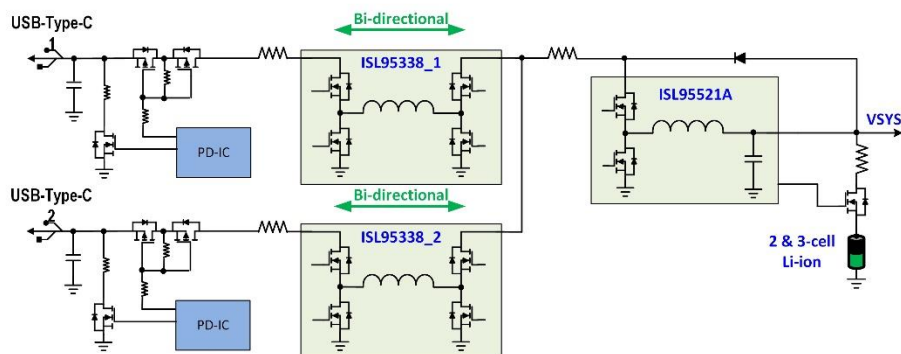
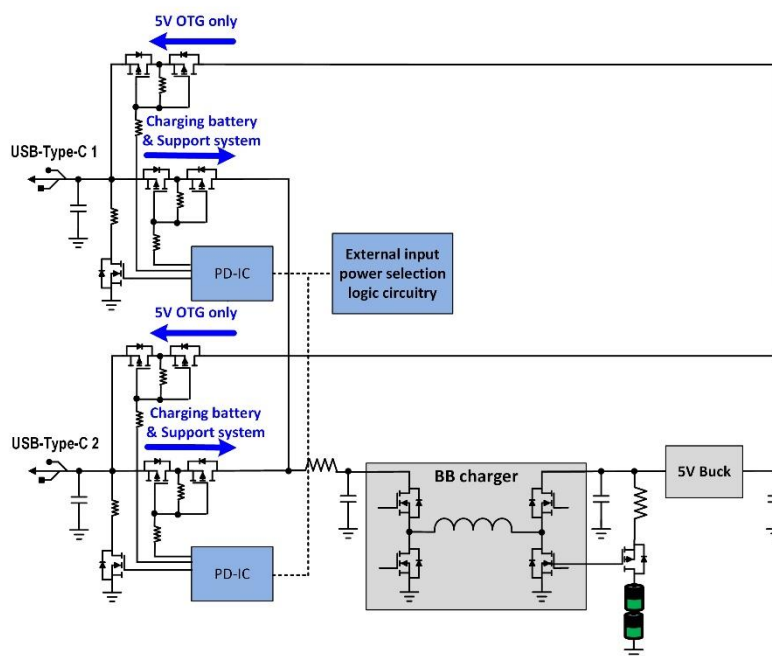
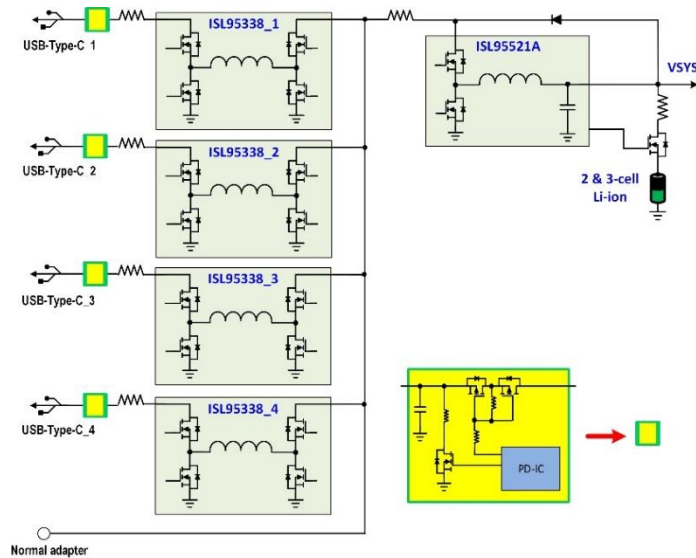

Figure 1. Renesas battery charger architecture—dual USB Type-C ports with 2x BB regulator + buck charger
Figure 2. Current battery charger architecture—single BB charger + complicated external logic
Figure 3. Renesas battery charger architecture for four USB Type-C ports—4x BB regulator + buck charger
Figure 1 shows a new USB Type-C architecture that consists of the ISL95338 bidirectional buck-boost (BB) voltage regulator and ISL95521A combo battery charger or ISL9238 BB battery charger. It allows a system to charge its battery through USB Type-C ports, and it supports the fast charge function when two PD chargers are plugged into USB-C_1 and USB-C_2. This new architecture also supports full USB 3.1 On-The-Go (OTG) for both ports without additional complex port-control logic circuits or ICs.
Comparing Figure 1 and Figure 2, it's easy to see that the current battery charger architecture requires more devices and complicated external circuitry to implement the same functions and performance level as Renesas' battery charger architecture. Obviously, with the current battery charger system, every individual charger path requires a USB-PD controller to control two ASGATE and perform the charge function, which increases the design's system cost. To implement 5V buck OTG, the OTG gate also needs a PD controller. Note that the current buck converter can only output a single fixed voltage. Figure 2 shows that if the 5V buck is adapted, designers can only output a fixed 5V, which doesn't match the adjustable 5V up to 20V OTG output voltage required by many USB Type-C applications.
The proposed Renesas architecture overcomes all of these disadvantages. Figure 1 shows that two ISL95338 are in parallel to interface two USB Type-C ports to the ISL95521A battery charger. The system architecture is simplified, saving significant costs for customers because several components are eliminated, including individual PD controllers, ASGATE and OTG GATE. Most importantly, using fewer components does not degrade performance. For example, if the battery needs to be charged, power is delivered directly from the USB-C input to the ISL95521A. In addition, having two ISL95338's in parallel provides even more options for customer applications.
For instance, two USB-C inputs with different power ratings can be applied for heavy charging the battery, which means the battery charge power is higher than the single USB-C input power. Figure 1 illustrates how this can be accomplished with one ISL95338 (set for USB-C high power rating) in the voltage loop to support a constant voltage (V_0) for ISL95521A input, while the other ISL95338 (set with a USB-C small power rating) is in the current loop to automatically deliver maximum power to ISL95521A. In other words, there is no need to add external circuitry or logic to determine the different power rating operation of the two paralleled ISL95338 BB voltage regulators.
shown in Figure 2. Also, by using SMBus communication between the two ISL95338's, ISL95521A and PD controller, the OTG voltage can be adjusted instead of using a fixed value. Figure 3 shows a high power fast charging application where the new Renesas battery charging architecture can be extended to parallel four ISL95338's with one ISL95521A or ISL9238 battery charger. Each USB-C port can operate individually as a sink or source. This architecture can also combine the conventional adapter as a power source for the system, without increasing BOM cost.